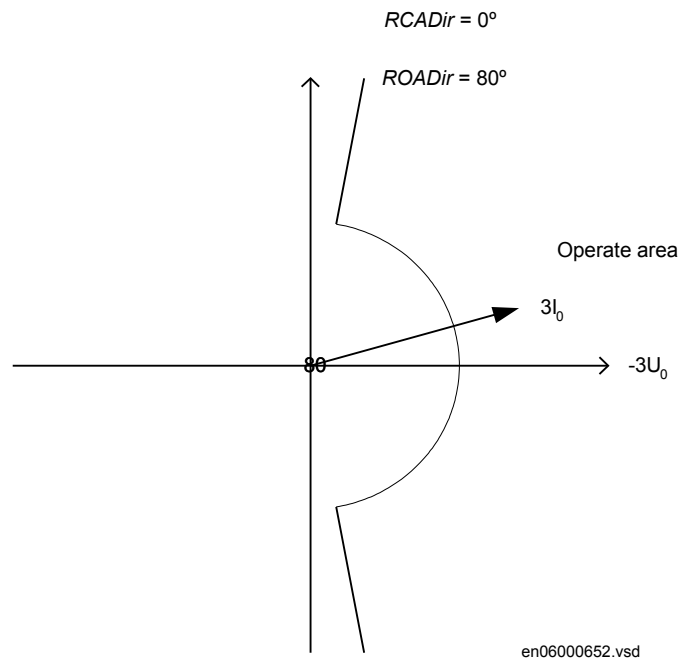

Figure 18: Example characteristic
4. Compare the result with the set values, refer to figure 18 for example characteristic.